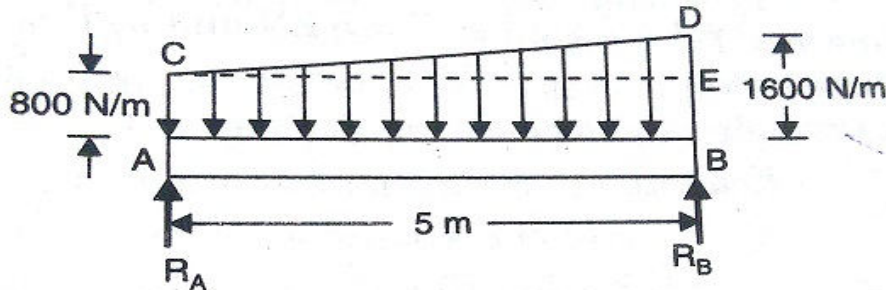

Fig. 2.
- b. A simply supported beam of length 5 m carries a uniformly increasing load of 800 N/m at one end to 1600 N/m at the other end as shown in figure 2. Calculate the reaction at both the ends.